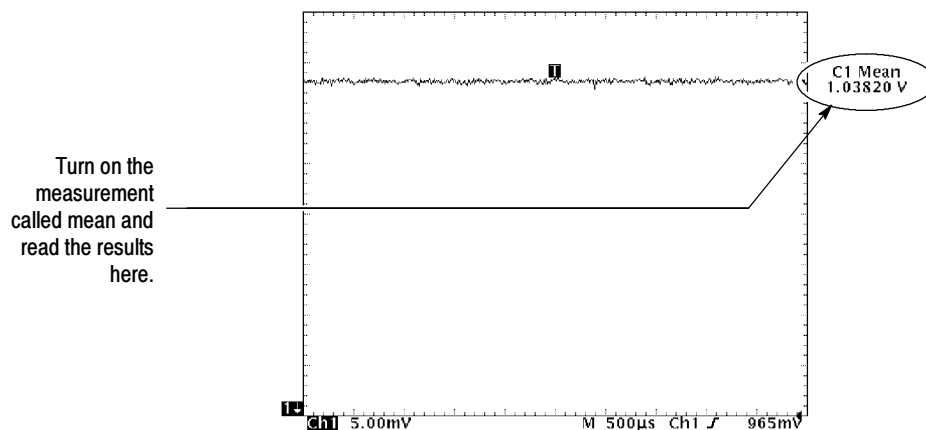

Figure 4-2: Measurement of DC accuracy at maximum offset and position
- e. *Measure the test signal:* Touch **Close**. Read the measurement results at the **Mean** measurement readout. See Figure 4-2.